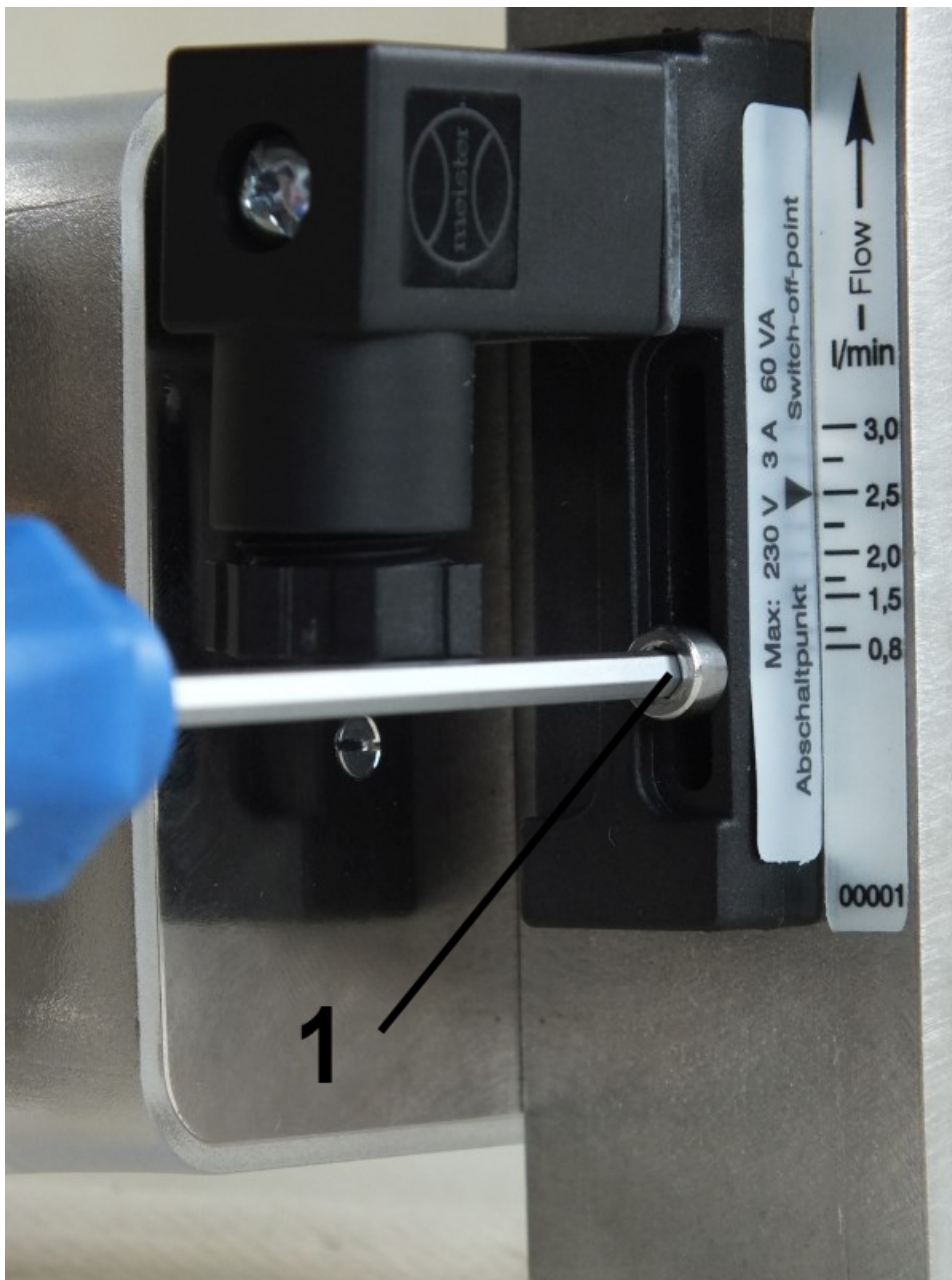

Fig. 33: Loosen set screw
1. Loosen the switch contact set screw (Fig. 33/1) using a hex screwdriver.
3. Re-tighten the switch contact set screw (Fig. 33/1) using a hex screwdriver. Observe the correct tightening torque.